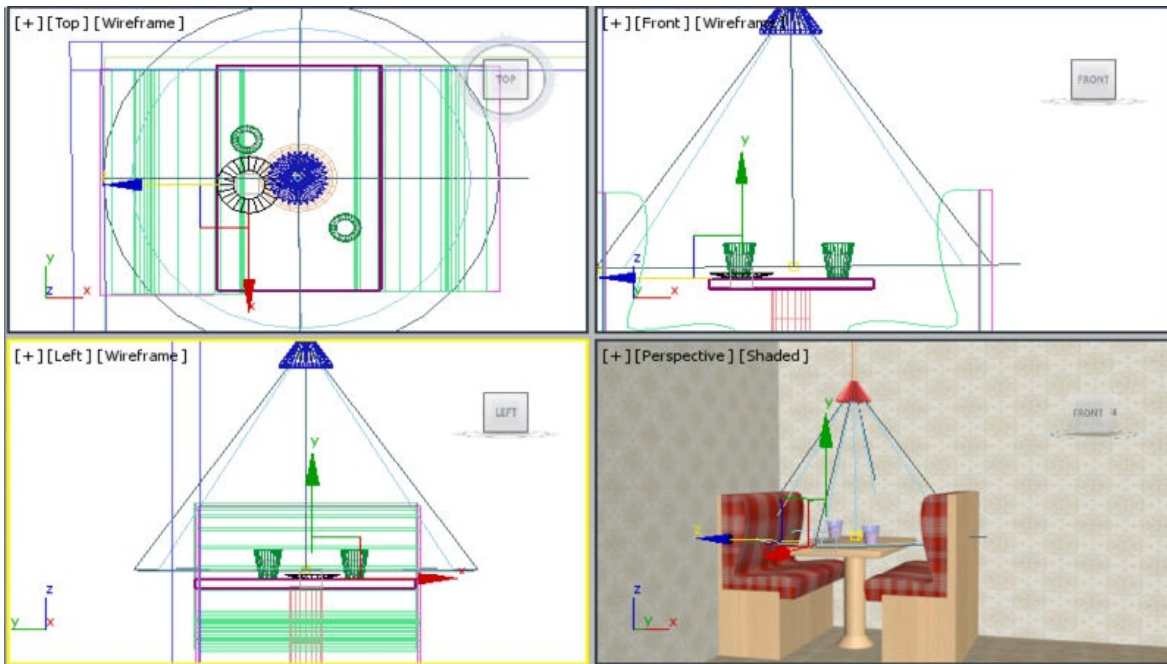

Figure P1-18 Plate01 created and positioned
10. In the Left viewport, move *Plate01* next to one glass, as shown in Figure P1-18.